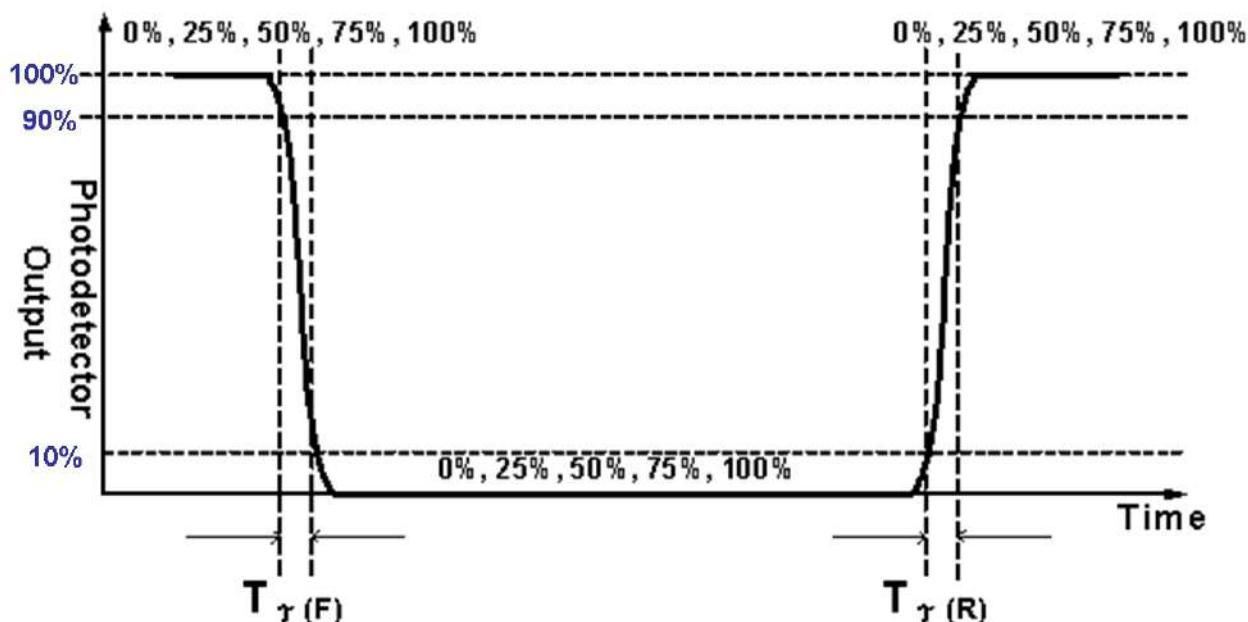

Fig. 2 Luminance
2. Surface luminance is luminance value at point 5 across the LCD surface 50cm from the surface with all pixels displaying white. From more information see **Fig. 2**. LED current I_F = typical value (without driver board), LED input $VDDB = 24V$, $I_{DDB.}$ = Typical value (with driver board), $L_{WH}=L_{on5}$ where L_{on5} is the luminance with all pixels displaying white at center 5 location.